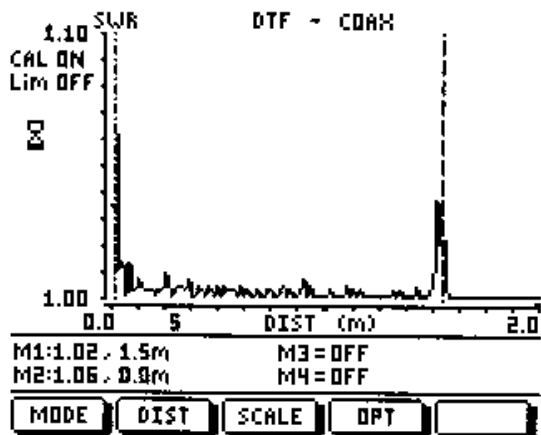

Figure 3-12. DTF-SWR Measurement Results (cable quality)
**Step 28.** Press the **MORE** soft key and then the **PEAK** soft key to find the worst case Return Loss (or SWR) reading. (See Figures 3-12 and 3-13.)